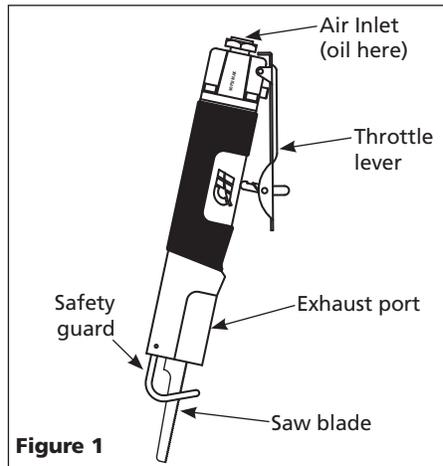

Figure 1
2. Turn the air reciprocating saw so that the air inlet is facing up (refer to Figure 1).